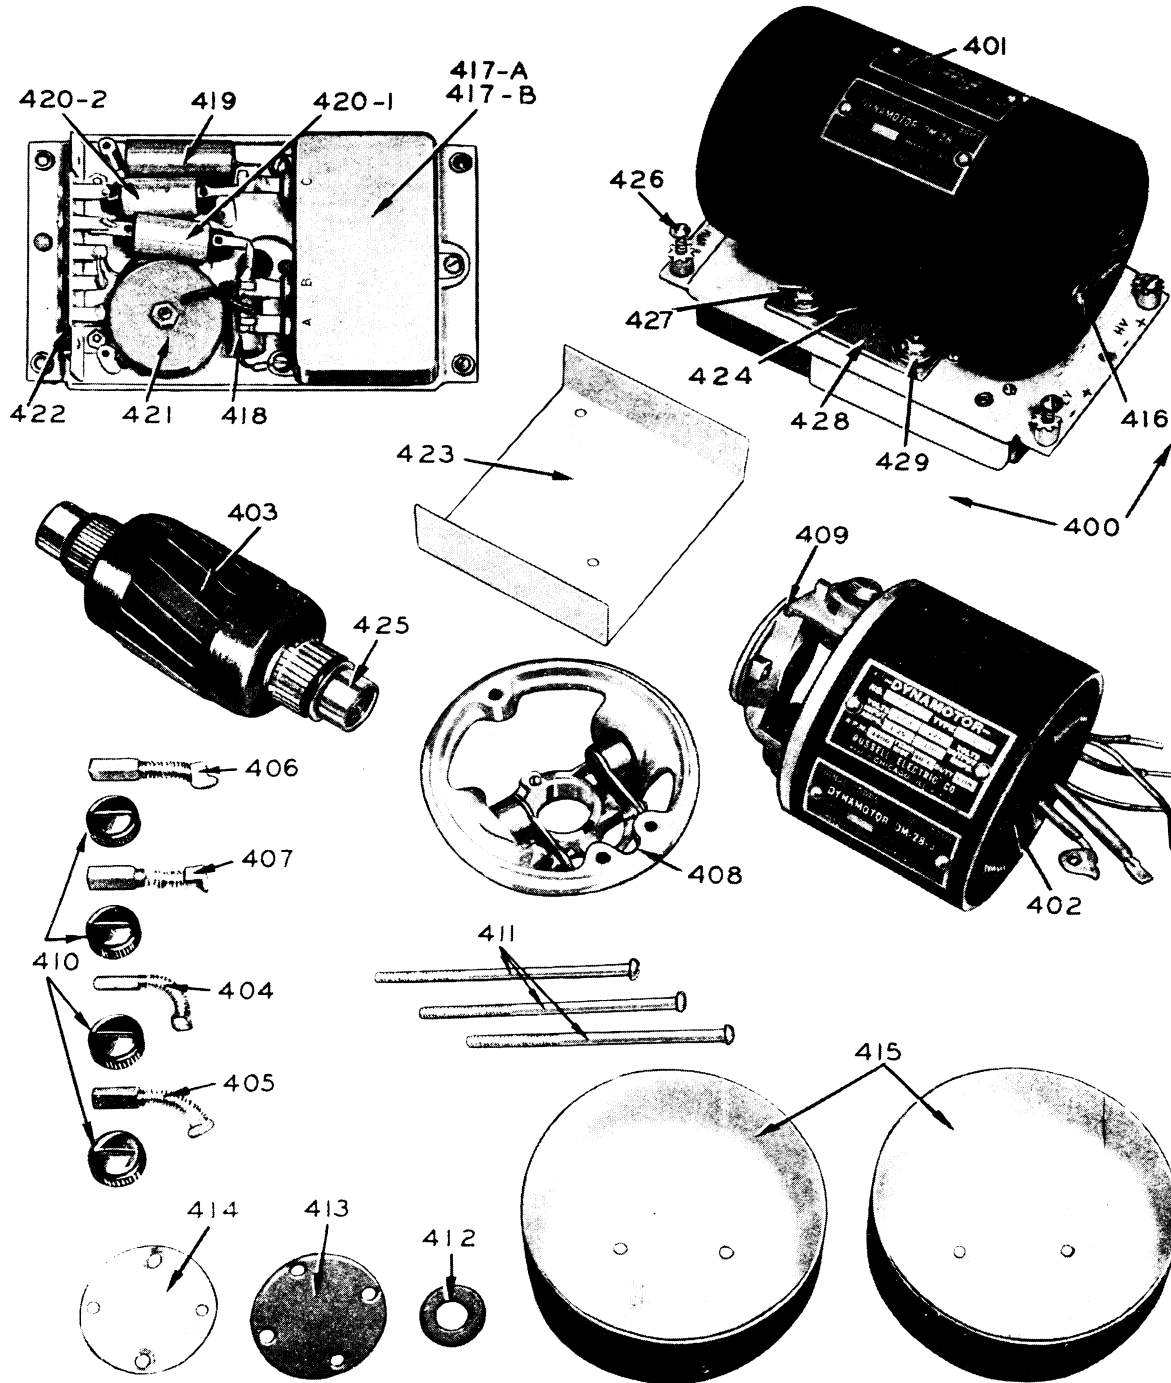

Figure 8 — Dynamotor DM-28-J and Filter
d. MAJOR OVERHAUL.—Repeat above. Inspect and replace dynamotor brushes if necessary. Lubricate dial and tuning capacitor drive mechanism. Check dynamotor and tube socket voltages as described in Paragraphs 34*e*(1) and 34*b*(1).
a. REMOVAL FROM CHASSIS.—The dynamotor and filter assembly (Figure 8, reference 400) may be removed easily from the receiver chassis by repeating the following steps in the order given:
(1) Loosen two thumbscrews 299 on the front panel, and remove the chassis from the cabinet.
(2) Loosen the five screws on the dynamotor terminal strip 422, and withdraw the five leads with spade terminals from under them. Retighten the five screws partially in order that they will clear the chassis when the dynamotor is removed.
(3) Push the left (from front of chassis) thumbscrew rod stop spring towards the end plate with a screwdriver, and withdraw thumbscrew rod 299 until the second stop position is reached.
(4) Loosen the four captive screws 426 which fasten the dynamotor to the chassis, and lift the dynamotor vertically from the receiver.